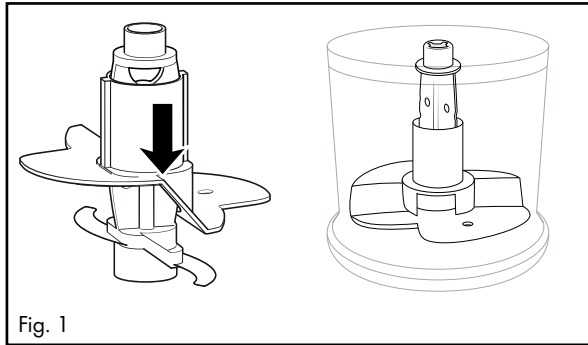

Fig. 1
- For 100 ml of cream, place it onto the blade holder **5** so that the whisk attachment **10** is in contact with both blades **7** and clicks into place (fig. 1):